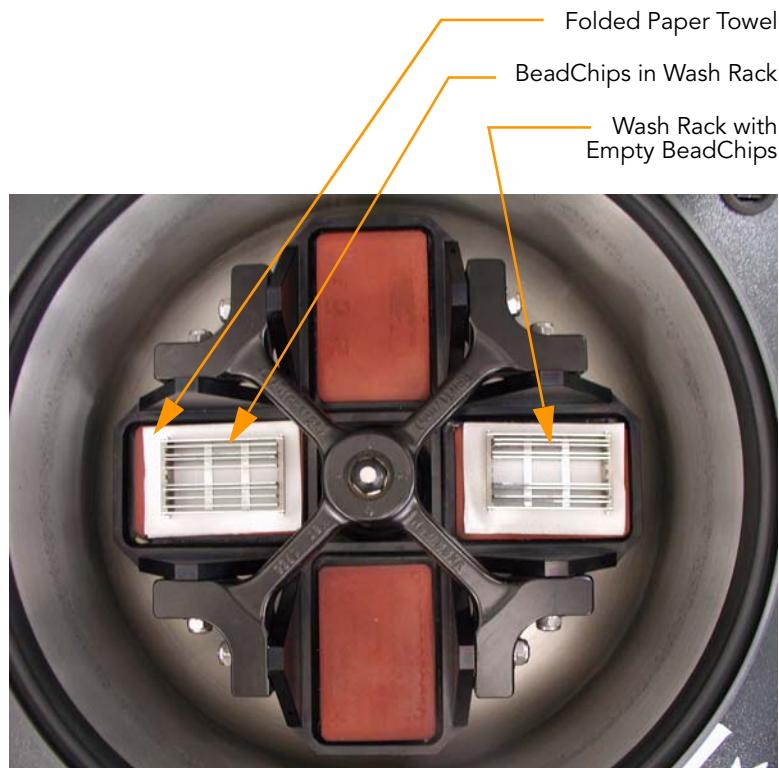

Figure 74 Balancing BeadChip Racks in Centrifuge
8. Place another rack loaded with empty BeadChips in the opposite carrier for balance (Figure 74).